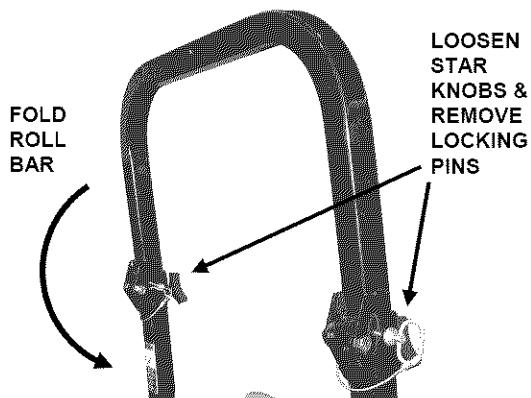

FIGURE 3.14
2. Loosen star knobs and remove locking pins. See Figure 3.14.